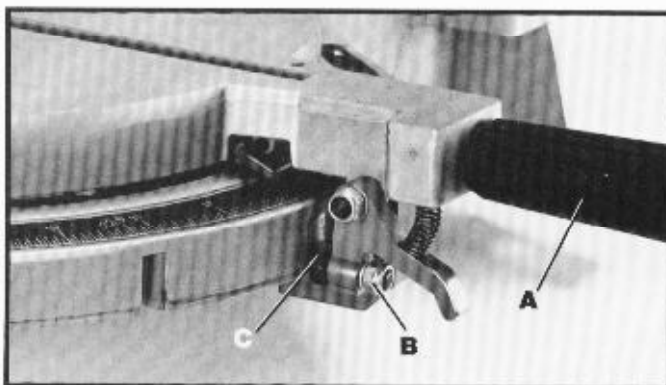

Fig. 24
4. If an adjustment is necessary, loosen the lock handle (A) Fig. 24, one turn. Then loosen locknut (B) and turn eccentric nut (C) right or left as necessary and tighten lock nut (B).